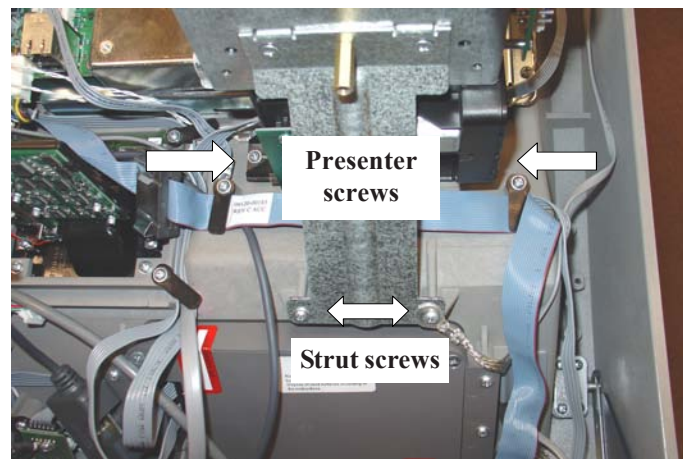

Figure 5. Remove 4 screws that secure assembly.
6. Remove the four (4) phillips screws that secure the printer presenter/strut assemblies shown in Figure 5. Retain the (2) strut screws. Remove the whole printer assembly from the unit. **NOTE: There is a ground wire lug attached to the lower right screw shown.**